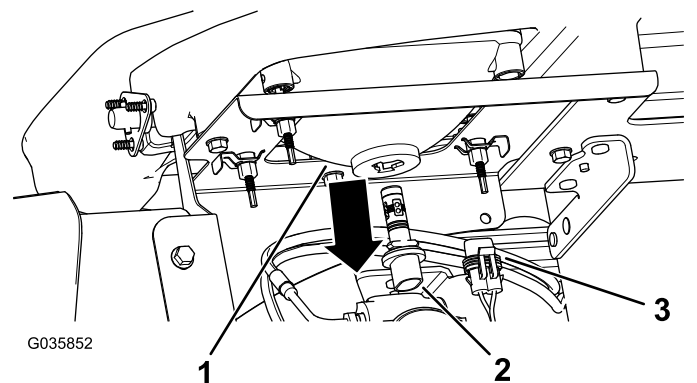

Figure 49
3. Disconnect the electrical connector for the harness from the connector of the lamp assembly at the back of the headlight housing (Figure 49).
4. Rotate the lamp assembly 1/4 turn counterclockwise and moving it rearward, out of the headlight housing (Figure 49).
with the slots in the headlight housing (Figure 49).
- Secure lamp assembly by turning it 1/4 turn clockwise (Figure 49).
- Connect the electrical connector for the harness to the connector of the new lamp assembly (Figure 49).